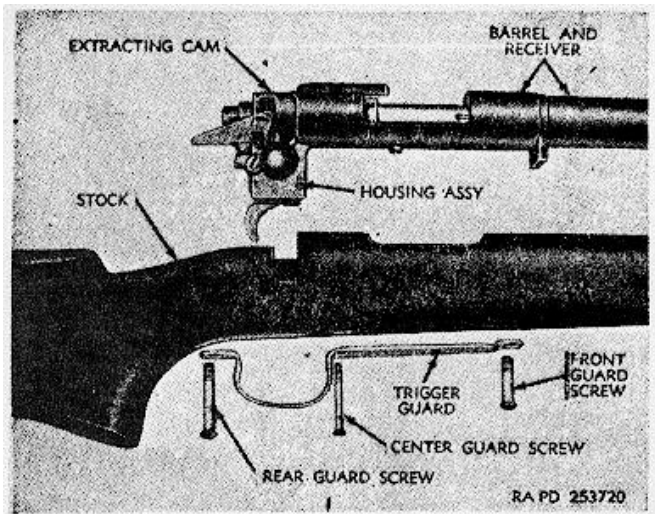

Figure 50. Cal 22 rifle M12 (Remington model 40XS1 )-partially field stripped.
- (5) Unscrew the front, center, and rear screws from the trigger guard (fig. 50), all of which have clearance holes through the guard, and stock and tapped holes in the bottom of the receiver. Then remove trigger guard, trigger guide plate, and barrel and receiver from stock.